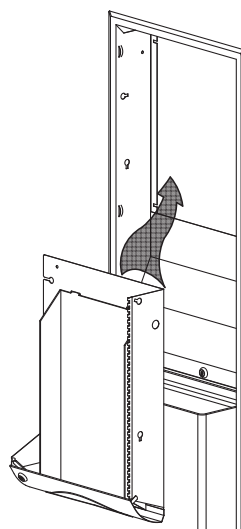

Figure 2
1. Carefully insert the Folded Towel Dispenser Module (without the door) under and behind the lower door stop in the cabinet until it touches the cabinet flanges. Slide up keeping the right side of the housing parallel with the right side of the cabinet supporting it from underneath with both hands. Make sure to keep the back of the housing against the back flanges of the cabinet and position the module so that the keyhole slots line up. (See Figure 2)